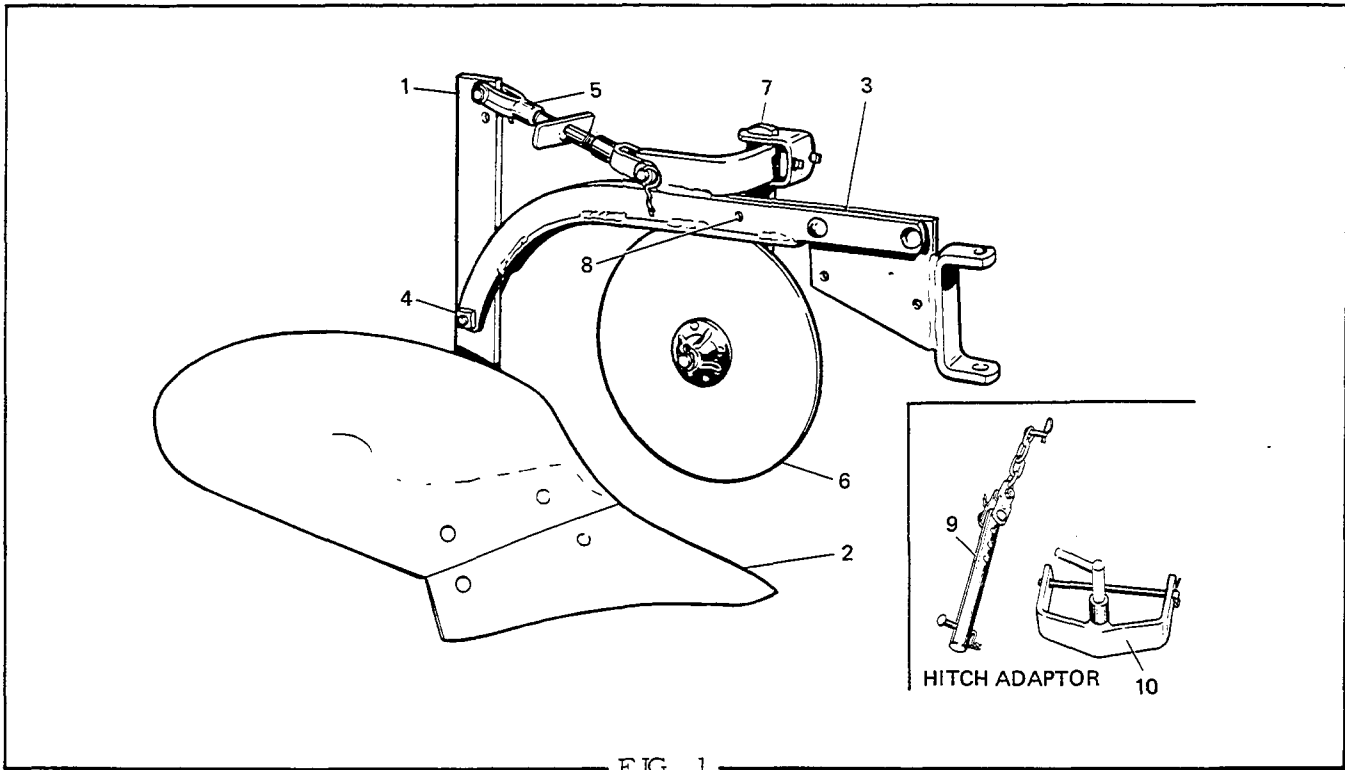

FIG. 1
ASSEMBLY AND ADJUSTMENT (Fig. 1)
1. Remove the gang bolts (1) from the frames and assemble the discs (2) into right hand left hand gangs as shown in Fig. 1. Insert the gang bolts through the discs and wood bearings and